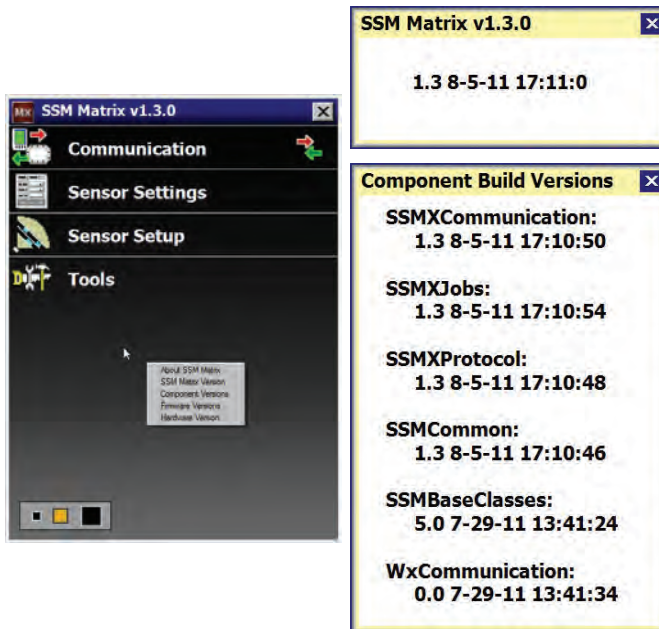

Figure 5.2 - Matrix Version (top) and Component Version (bottom)
You can always view the version of SSMM you are using by right-clicking (click and hold on handheld) on the main screen and then clicking **SSM Matrix Version**. To see the version, date and timestamp of the individual components that make up the program, select **Component Version** (see Figure 5.2).
- 1 Click on **Communication** to access the Communication window (see Figure 5.2).